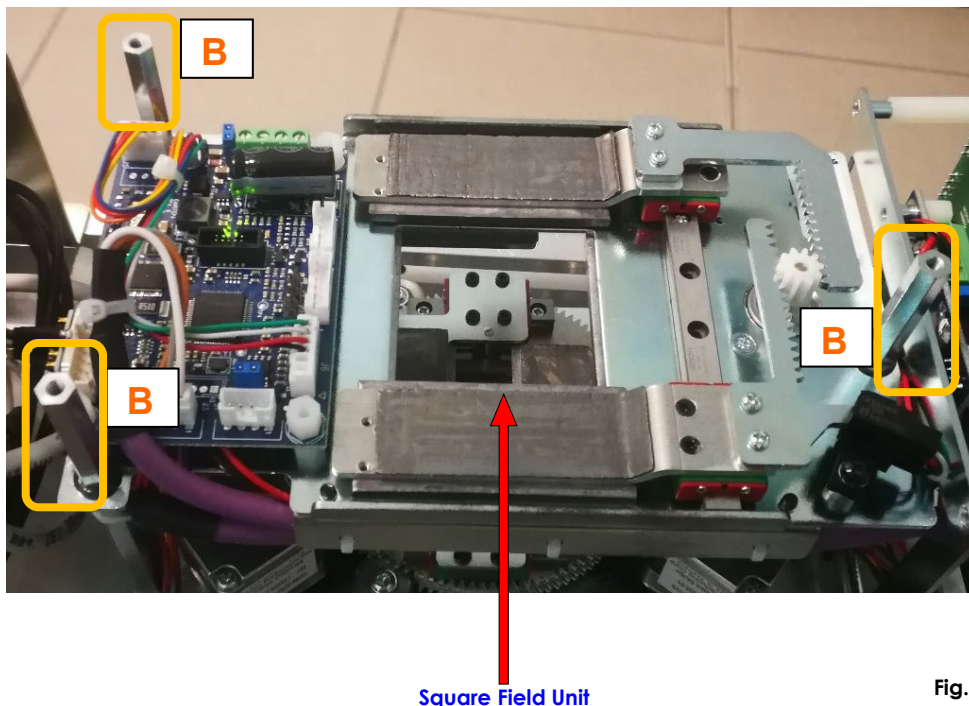

Fig.4
- If not properly centered, loosen the 3 rods "B" (Fig. 4) used to secure the unit in position and then shift this as required.